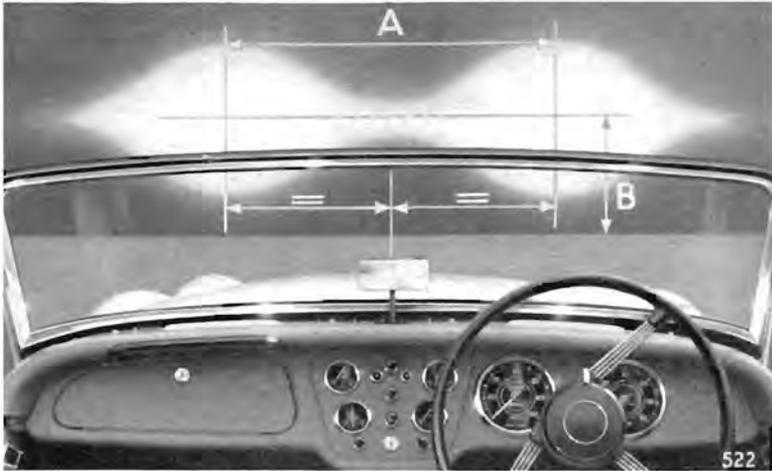

Fig. 22. Head lamps correctly aligned.
A point should be marked on the screen in line with the centre of the bonnet. Two crosses should be drawn on the "screen" 27" above the ground level as indicated by (B), and 35½" apart (A), measured equally about the centre point (see Fig. 22). Switch